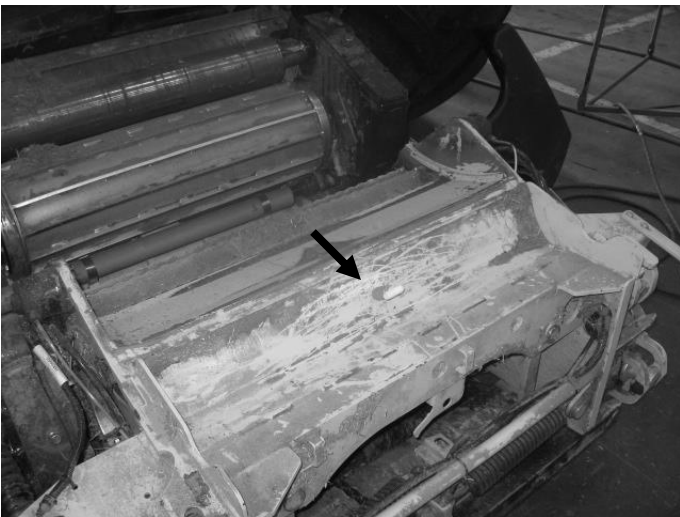

Figure 3
5. Lower the processor away from the chopper and mark a point centered to mount the nozzle assembly. (Figure 3) Drill a 9/16" hole and attach the check valve (002-4564F) to the nozzle body (004-4744) through the hole. Insert the tip strainer (004-1203-100) and tip on to the end of the nozzle body and secure with nozzle cap (004-4745). Route the 1/2" hose from the gauge to the elbow and secure with hose clamps and jiffy clips.